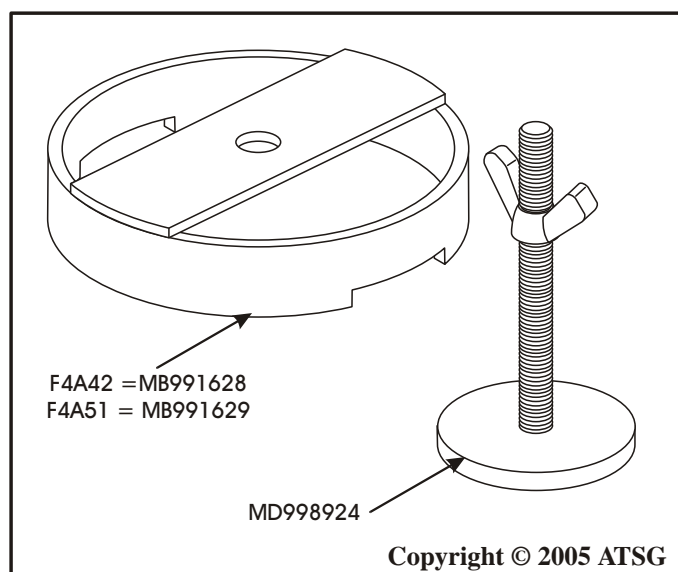

Figure 85
18. Install the clutch compressing tools as shown in Figure 85 and 86.